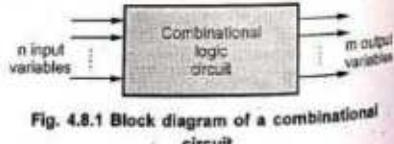

Fig. 4.8.1 Block diagram of a combinational circuit
- Fig. 4.8.1 shows the block diagram of a combinational circuit.